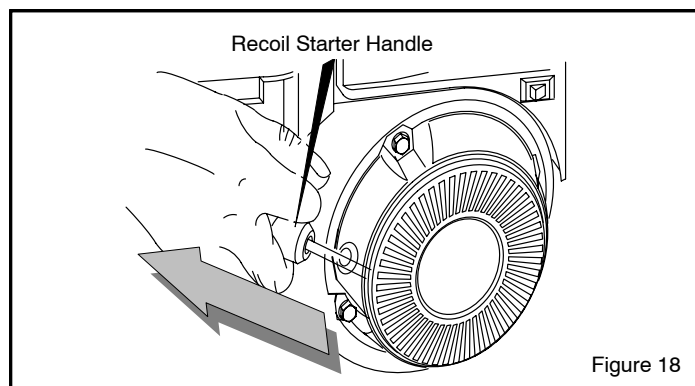

Figure 18
6. (**RECOIL START**) Pull starter handle (Figure 18) rapidly, and allow to rewind slowly while maintaining firm grip on handle.